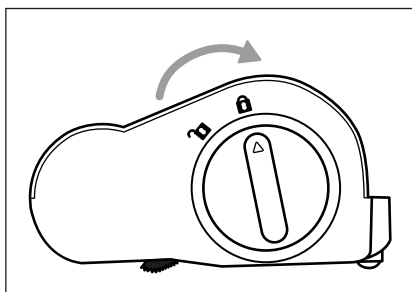

Fig. 25
- 5) Insert the rotary brush **19** into the floor brush **20** and turn the rotary brush release **18** in the direction of the symbol **A** (close) (see Fig. 25).